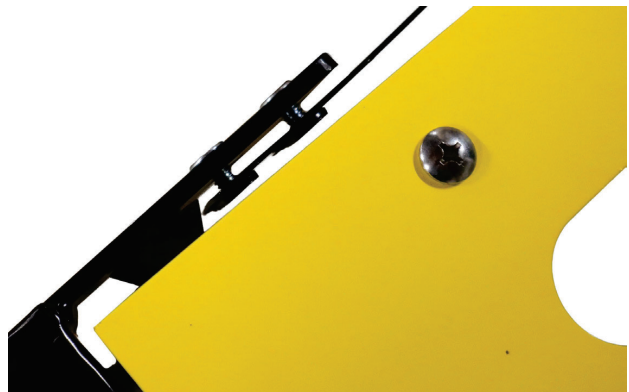

Figure No. 4
- Using the supplied 5/32 in. short hex key, tighten both screws securely (See Figure No. 4).